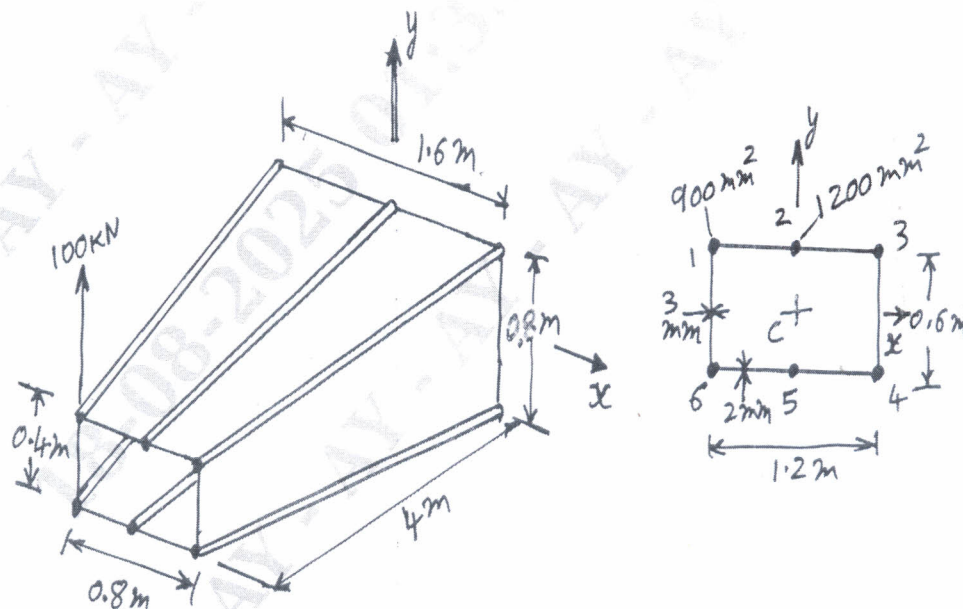

Fig. Q.9
- 9 The cantilever beam shown in Fig. Q. 9 is uniformly tapered and carries a load of 100 kN at its free end. Calculate the forces in the booms and shear flow distribution in the walls at a section 2 m from the built in end. Each corner boom has a cross sectional area of 900 mm^2 , while both central booms have 1200 mm^2 .